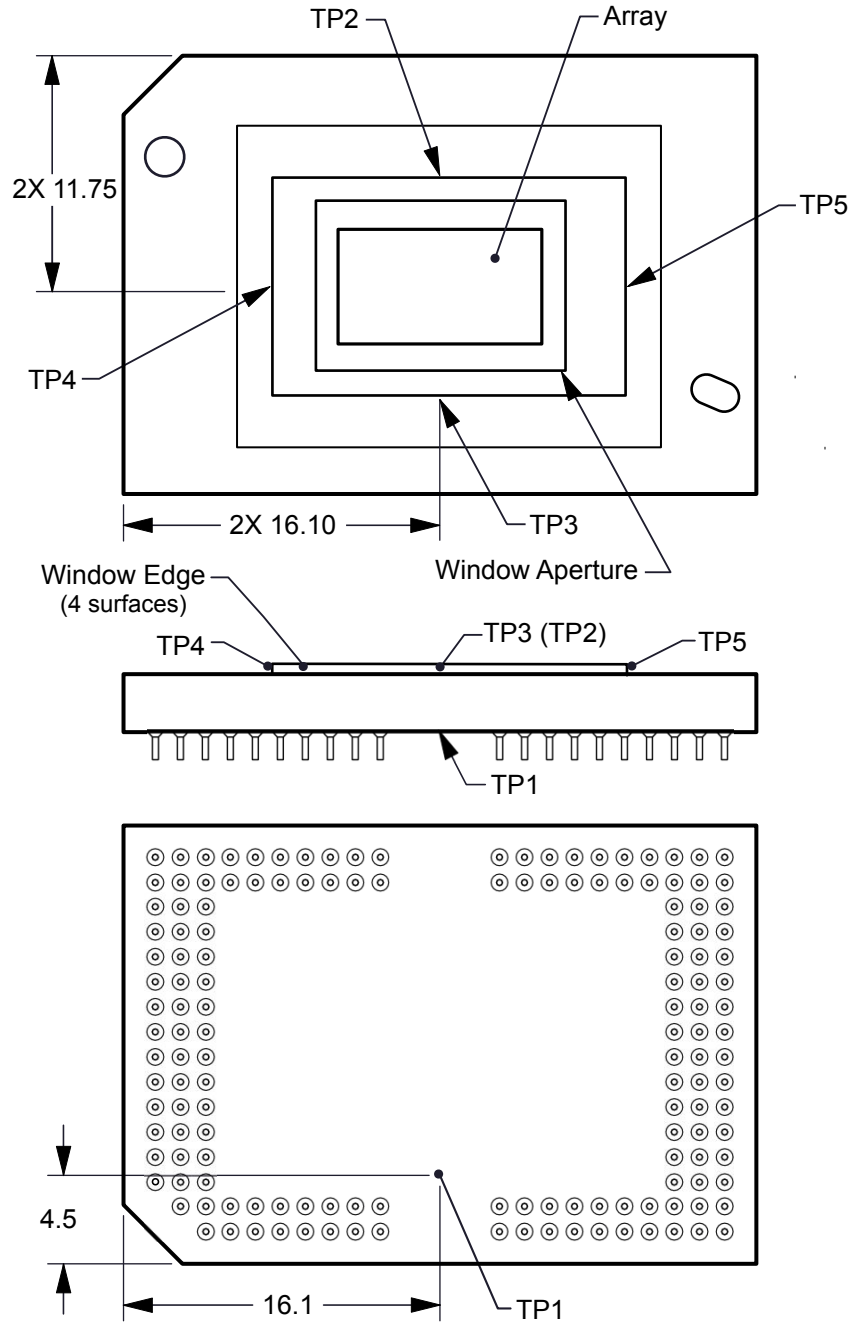

図 6-1. DMD Thermal Test Points
Micromirror array temperature cannot be measured directly, therefore it must be computed analytically from measurement points on the outside of the package, the package thermal resistance, the electrical power, and the illumination heat load. The following equations show the relationship between array temperature and the reference ceramic temperature, thermal test TP1 図 6-1 shown above:
- $T_{\text{CERAMIC}}$  = Measured ceramic temperature (°C), TP1 図 6-1
- $R_{\text{ARRAY-TO-CERAMIC}}$  = Thermal resistance of package specified in セクション 5.5 from array to ceramic TP1 図 6-1 (°C/W).
- $Q_{\text{ARRAY}}$  = Total DMD Power (electrical + absorbed) on array (W).
- $Q_{\text{ELECTRICAL}}$  = Nominal electrical power (W)
- $Q_{\text{INCIDENT}}$  = Incident illumination optical power (W)
- $Q_{\text{ILLUMINATION}}$  = (DMD average thermal absorptivity ×  $Q_{\text{INCIDENT}}$ ) (W)